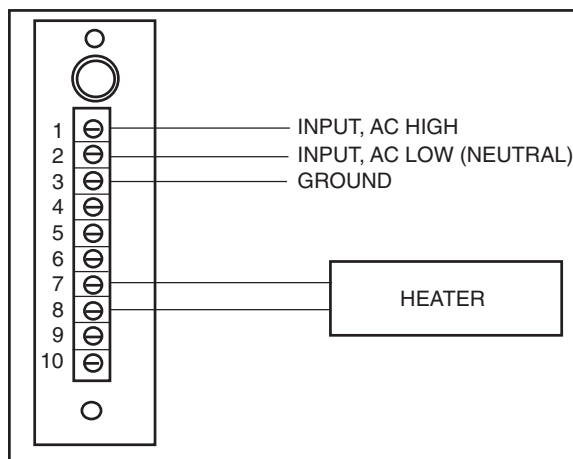

Figure 2. Wiring Diagram for HS5001 Heaters
Heater connections for all models used with the HS5001 are wired the same. Refer to Figure 2 for proper wiring connections.
1. Follow steps one (1) through four (4) of section 4.3 to remove the camera/lens sled.
3. Reinstall sled and route wires from heater to terminal block; connect wiring per Figure 2 on page 3.